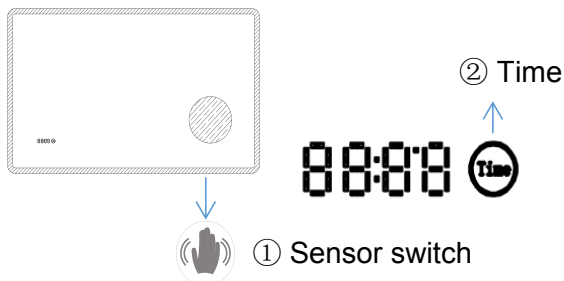

Fig. 1
7. Finally, switch on the power, then close to the "①" (Fig.1) by hand to test the products.
8. Time: Long press "②", The number will flashing, then press "Touch switch" to adjust the Time.